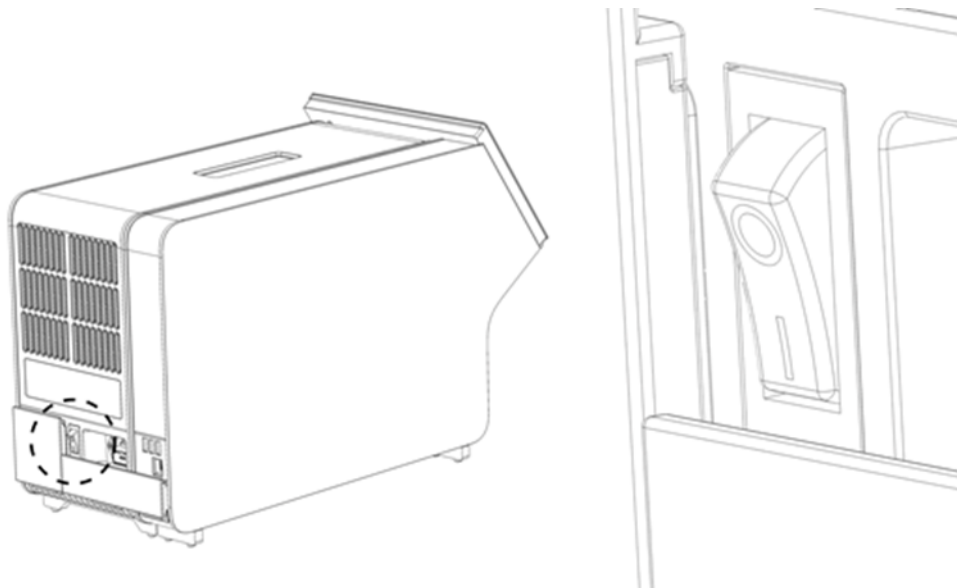

Figure 21. Locating the power switch and setting it to the "I" position.
10. To power on the instrument, press the power switch on the back of the Analytical Module to the "I" position (Figure 21). Confirm that the status indicators of the Analytical and Operational Modules are blue.